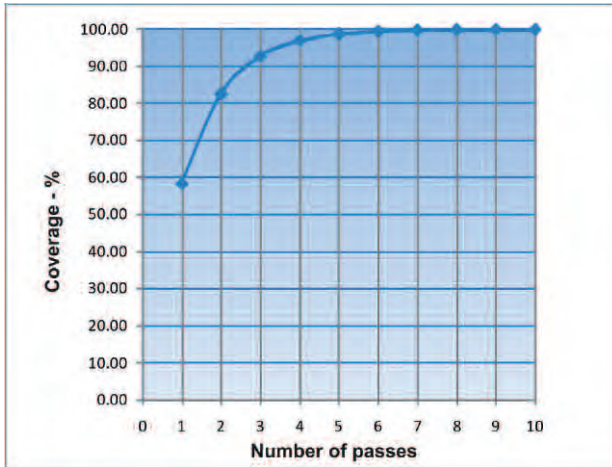

Fig.8. Automatic prediction of Coverage versus Number of passes.
A much more efficient approach can be applied if objective quantitative coverage measurement is available. Equations (3) and (4) can then be used to predict the changes in coverage that result from more and more passes being made of a shot stream over a component. **All we need is one, reasonably-accurate, measurement of the actual coverage achieved.** Let us assume that our standard practice is to make several passes of a defined shot stream over a particular component. We measure the coverage after the first pass (**n = 1**) and find that it is, say, **58%**. Substituting **p = 1** and **C = 58** into equation (4) gives that **A=0.87**. We can now substitute **0.87** for **A** in equation (1) to give: **C% = 100[1 - exp(-0.87\*p)]**. Substituting different values for p then gives us the predicted coverage percentage for each of a number of passes. Fig.8 is pasted from an